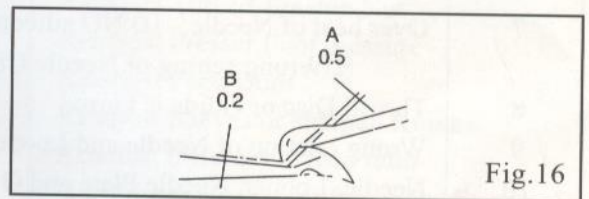

Fig.16
#### (4) Upper Loooper and Lower Loooper Fig.16